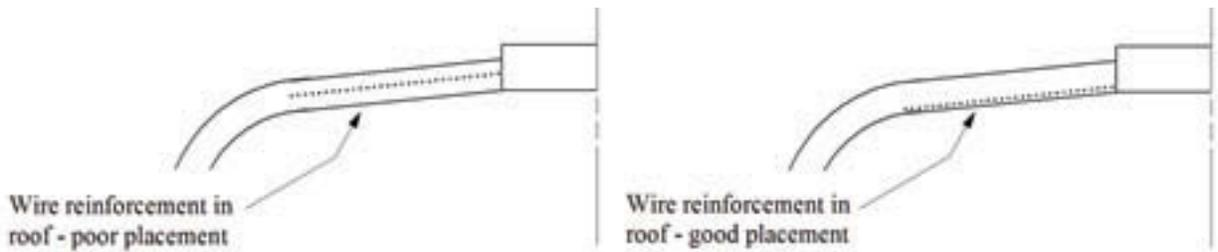

Fig. 32: Roof wire reinforcement placement
*Note: Vertical wires will be attached from the tank bottom, over the roof, to the opposite side of the tank. These wires, in combination with the cement roof, act as a reinforced slab. The wires are most effective if they are located near the bottom of the roof slab, which is why no cement is added to the roof when plastering the second layer (see figure 32).*